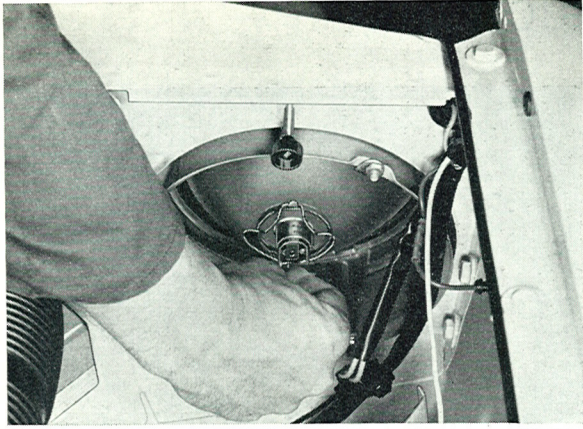

Fig. 3-64. Removing the lock spring
1. Disconnect the leads by drawing the connecting contact back. Pry off the rubber protection, see Fig. 3-63. Clamp together and remove the spring retaining the bulb to the insert, Fig. 3-64.